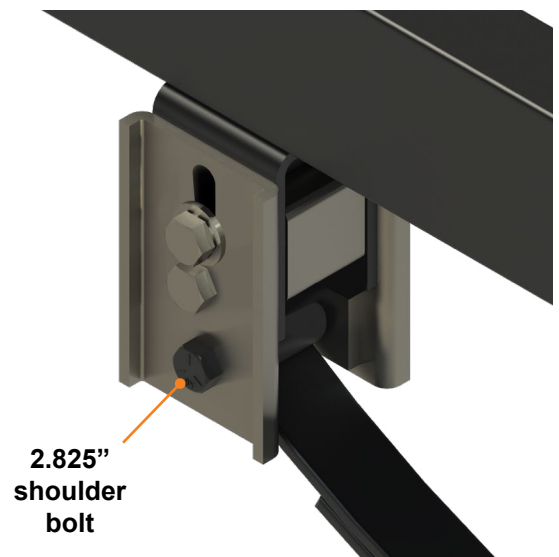

Fig.5
6. Bolt the assembly together using a 7/16" x 2.825" shoulder bolt (bolt length 3.375") and a nut (**Fig. 5**). Torque the nut to 30-50 ft-lbs.